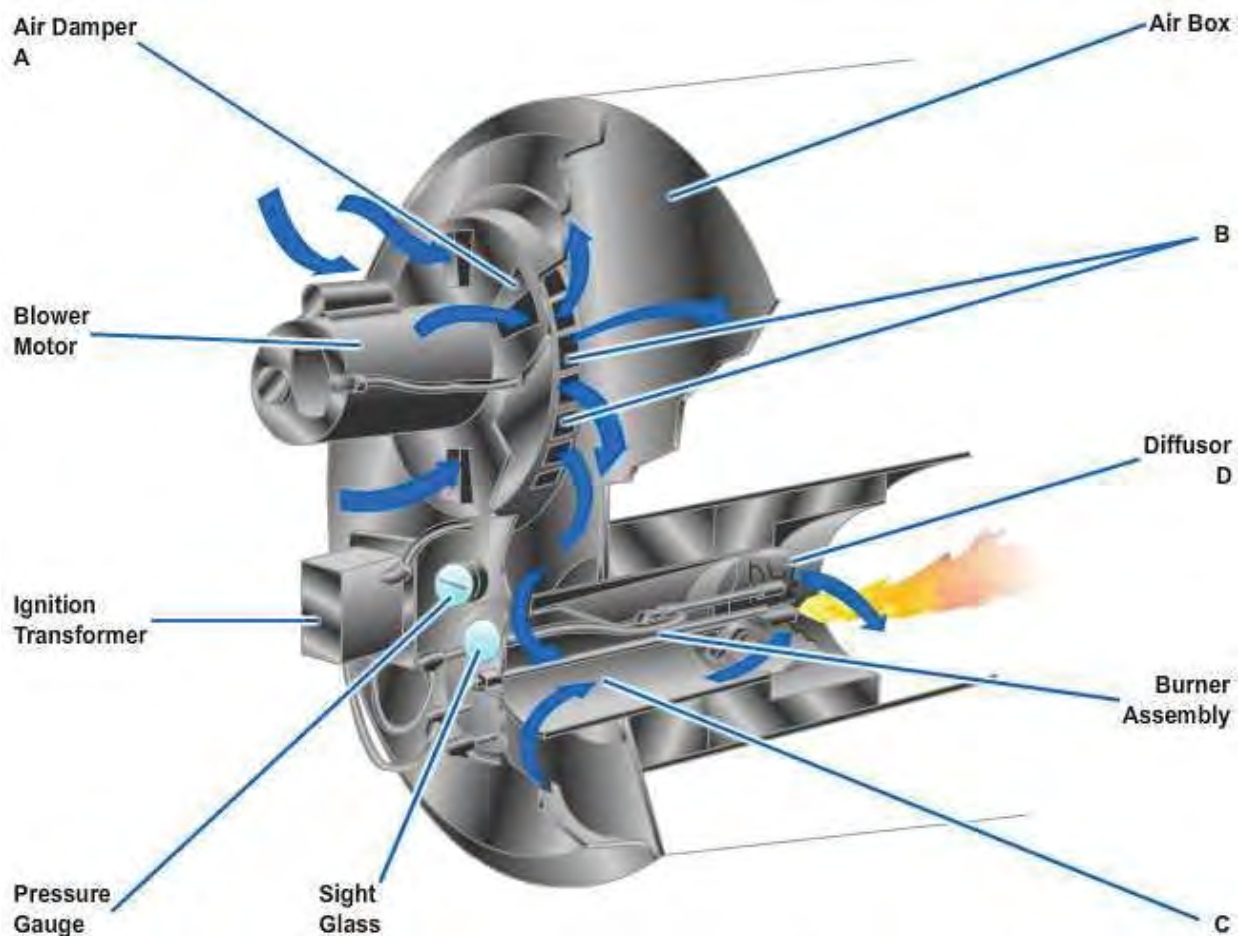

Figure 23 - Airflow diagram.
The combustion airflow diagram in *Figure 23* shows a cutaway view of those components that influence most the path of the air through the burner assembly. Air is drawn into the motor-driven blower through the adjustable air damper at (A) and forced through openings (B) into the air box. Sufficient pressure is built up to force the air through openings (C) and the diffuser (D). In the area immediately beyond the diffuser (D), combustion is completed. The hot gaseous products of combustion are forced on through the remaining three passes, where they give up a large portion of the contained heat to the water which completely envelopes the passes.